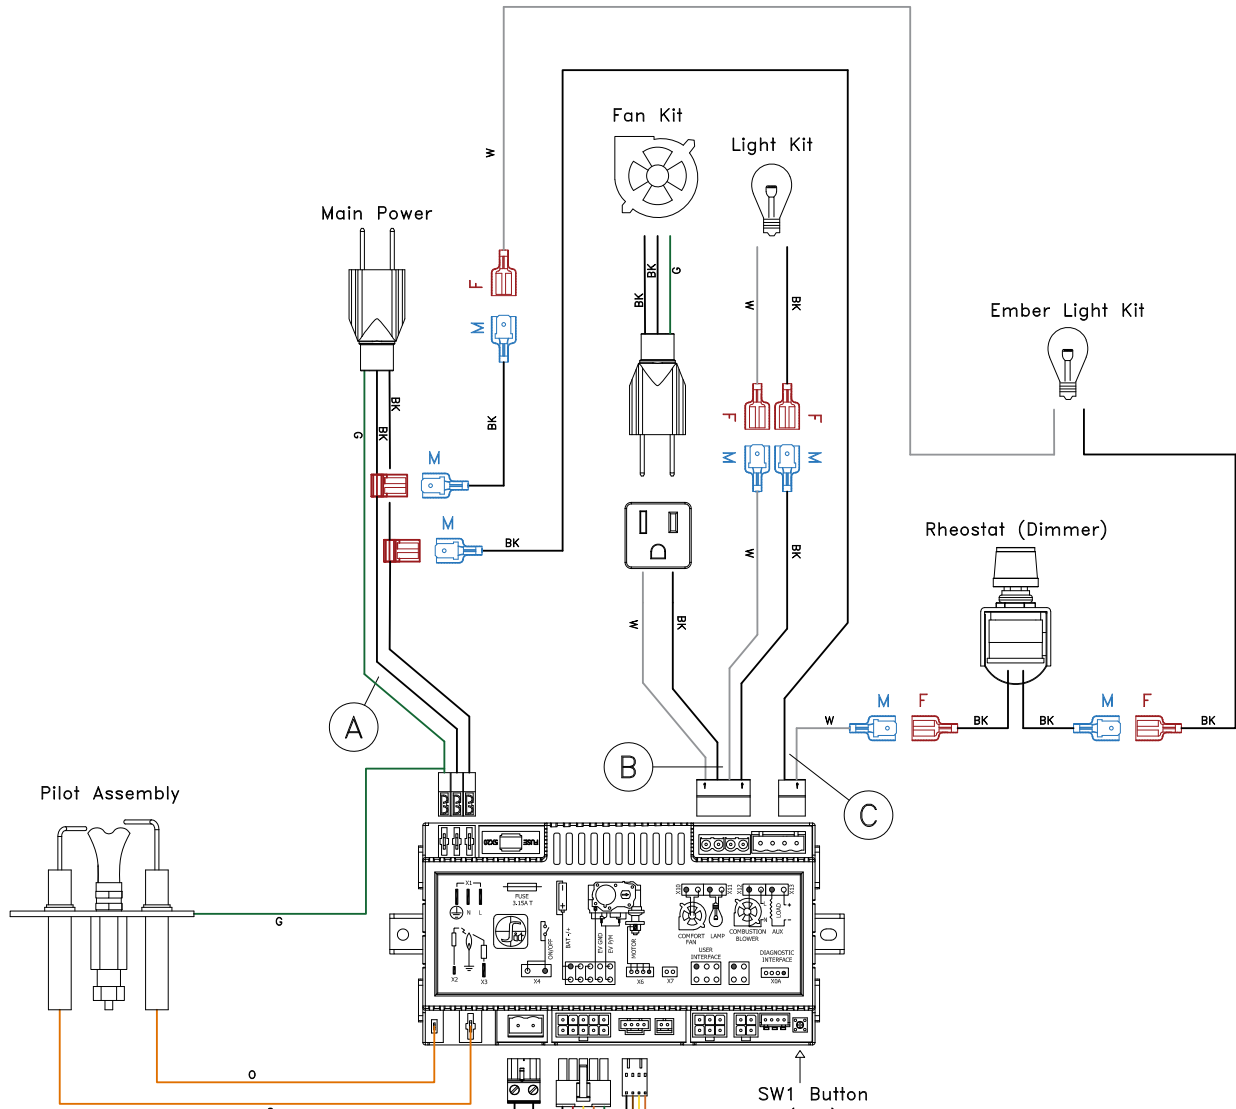

Figure 10.2 - Electrical Diagram - Close up #1
- Figure 10.2 shows a close up of the wiring diagram. This figure shows the main power cord, optional fan kit, top light kit, ember bed light kit, and pilot assembly.